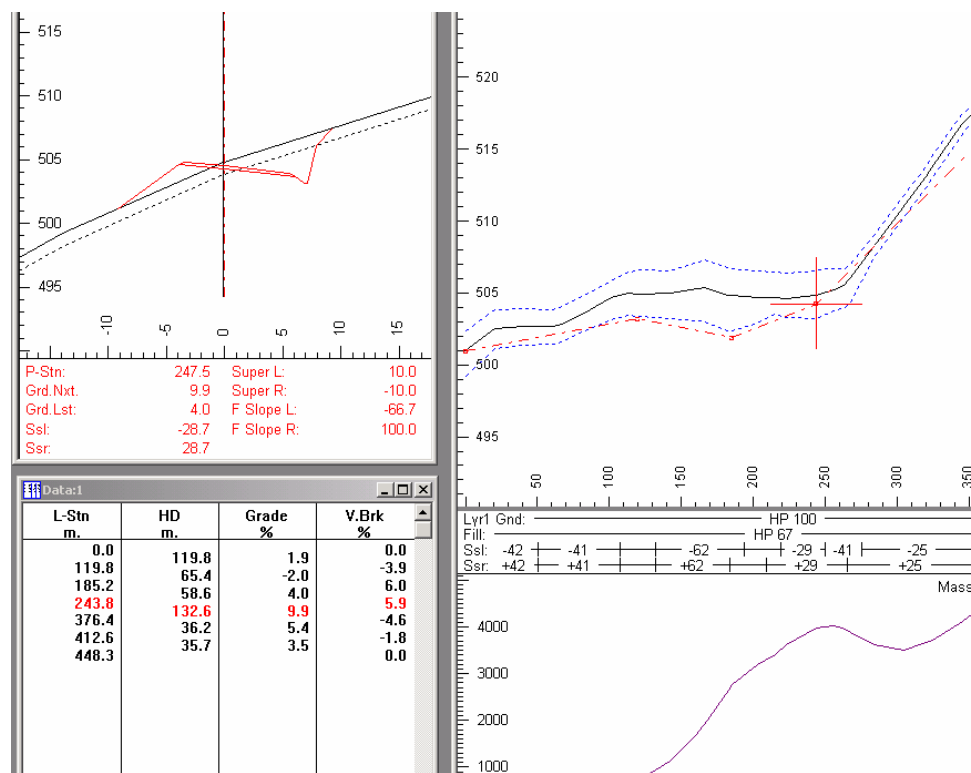

Figure 4.21: After Aligning the First Section of Road
- Vertically align from the start of the road to station 350 until there are no more excessive fills, the maximum grade is 10% and there are no grade breaks greater than 6.0% (Figure 4.21). You can move *or* delete vertical VIPs.